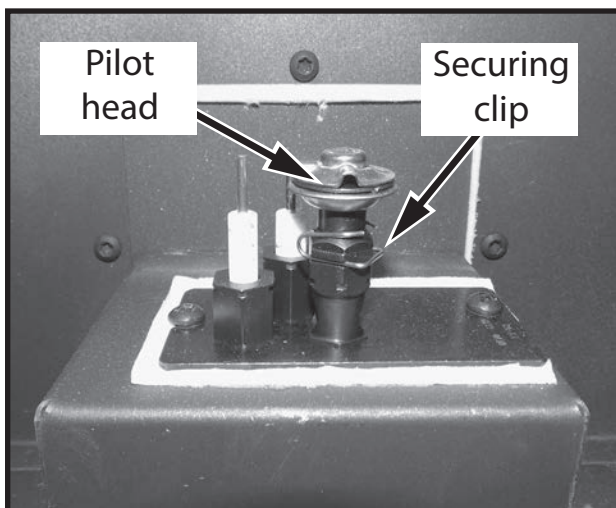

Figure 58: Pilot head and securing clip.
8. Remove the pilot head by taking the securing clip off and lifting the head off of its support (Figure 58). This will prevent damage while the the pilot control panel is being extracted through the rear of the unit.